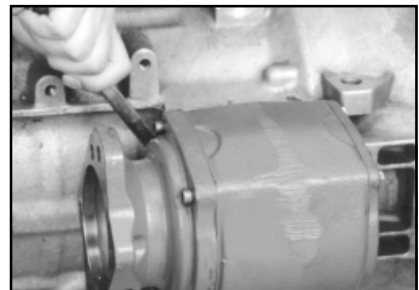

Figure 6
- Use self locking nuts provided with P.T.O. (Fig 6).